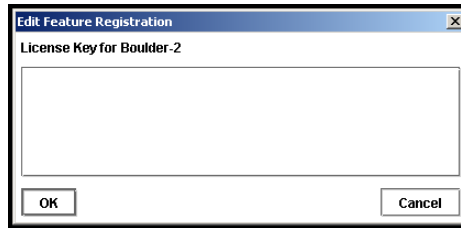

Figure 220. Entering License Key
4. Select an SSM and click Edit License Key. The Edit Feature Registration window opens, shown in Figure 220.